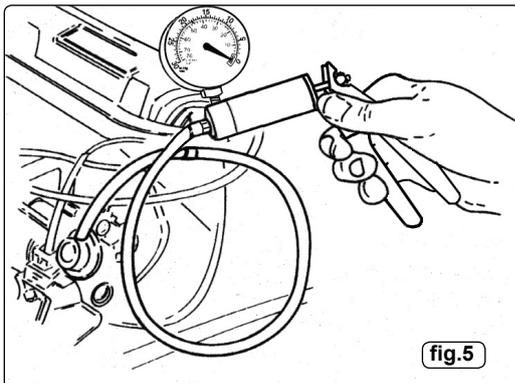

fig.5
5.4.2.2. To test the fuel rail pressure, a gauge is attached to the rail, then engine loads must be created to vary engine manifold vacuum. Simply remove and block off the vacuum supply line to the pressure regulator, connect and operate the VS4022 vacuum pump (fig.5) to simulate vacuum pressures in accordance with the manufacturer's specifications and note variation in fuel pressure reading.